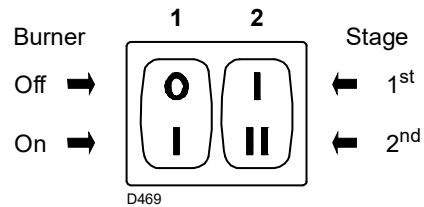

Fig. 19
- Start the burner by closing the control devices and with switch 1)(Fig. 19) in the "ON" position. The pump must rotate in the direction of the arrow marked on the cover.
- Stop the burner: switch 1)(Fig. 19) set to "OFF" and tighten the screw 3).